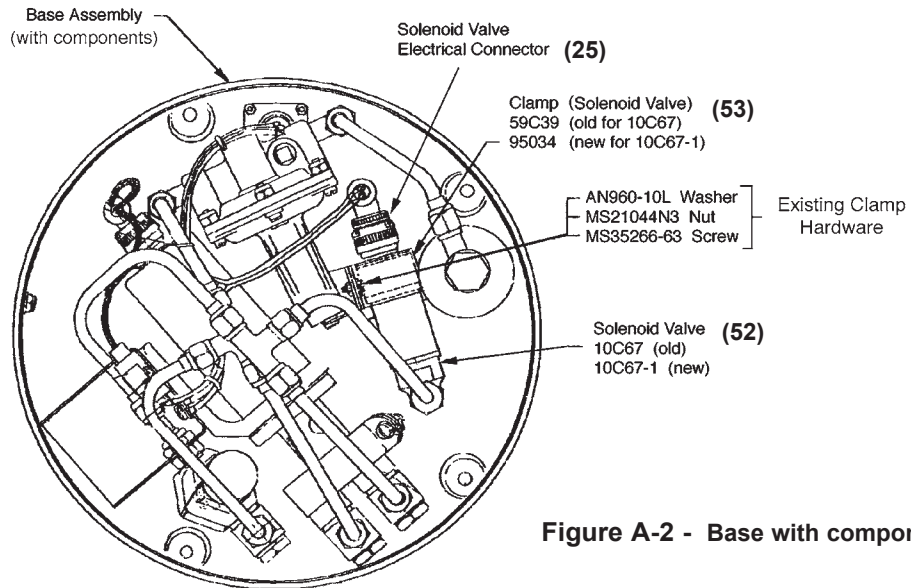

Figure A-2 - Base with components
- (2) Remove the screw (6) from the outer side of the jacket (9) and the four nuts (1) and washers (2) from the base and rock slightly to remove. If the unit is old, the preformed packing (10) may stick. Use a soft mallet and tap around the jacket circumference while hand pulling on the base. Do not pry using metallic tools as damage may occur to the base or jacket. Remove preformed packing (10) and discard.
- (3) Locate the Solenoid Valve clamped to the base as shown in Figure A-2.